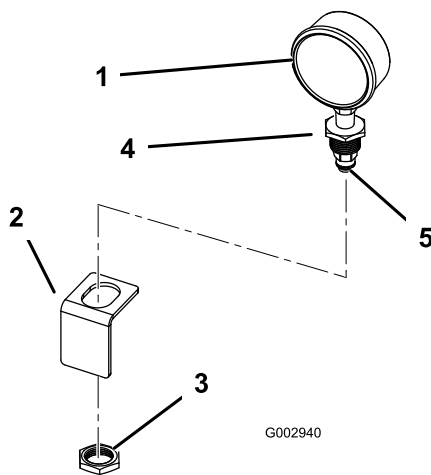

Figure 22
1. Wrap Teflon tape counterclockwise around the threads of the gauge and install the reducer fitting onto the gauge (Figure 22).
2. Install the black plastic fitting into the reducer fitting on the gauge (Figure 22).
3. Install the pressure gauge into the bracket under the circular opening inside the control box cover, securing it with the nut packaged with it (Figure 22).